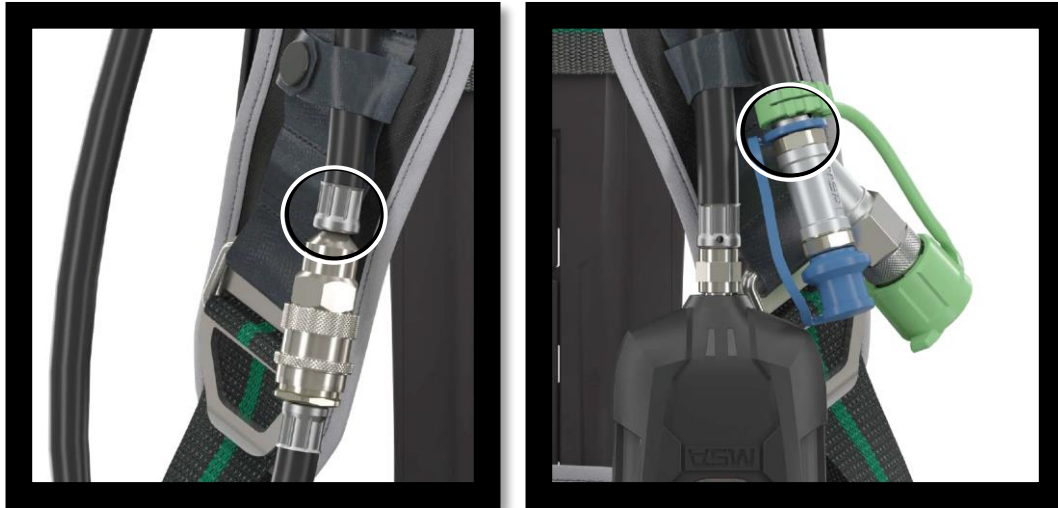

Figure 5 – Medium Pressure Coupling Inspection
3. Medium Pressure Couplings (if equipped) (Figure 5)